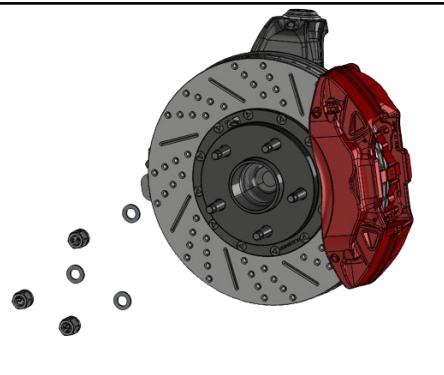

FIGURE 7. REMOVAL OF TEMPORARY ROTOR RETAINING HARDWARE
4. Remove the previously installed lug nuts and washers from the rotor (Figure 7).